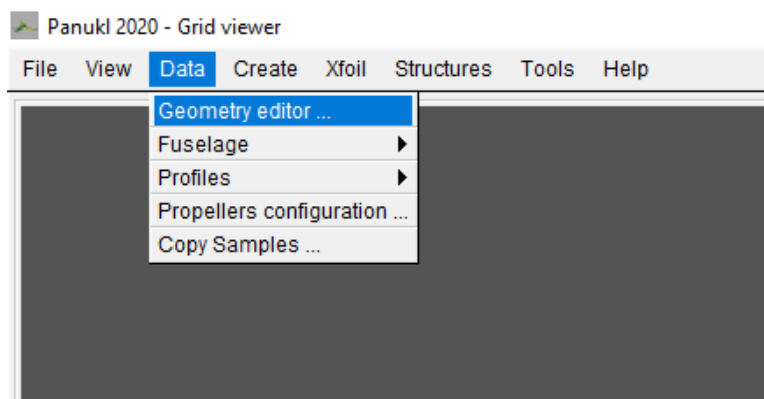

Fig. 2 Opening MS2 editor
- It is recommended to generate geometry file with MS2 editor (Fig. 2);